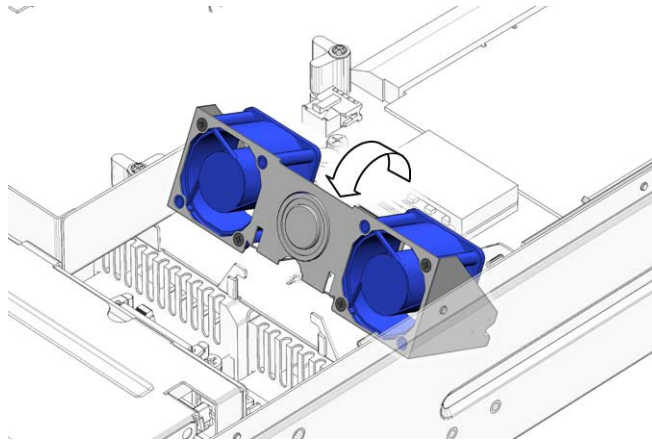

FIGURE 3-38 Securing the Hard Drive Fan Bracket
3. Pivot the hard drive fan bracket forward until it clicks (FIGURE 3-38).